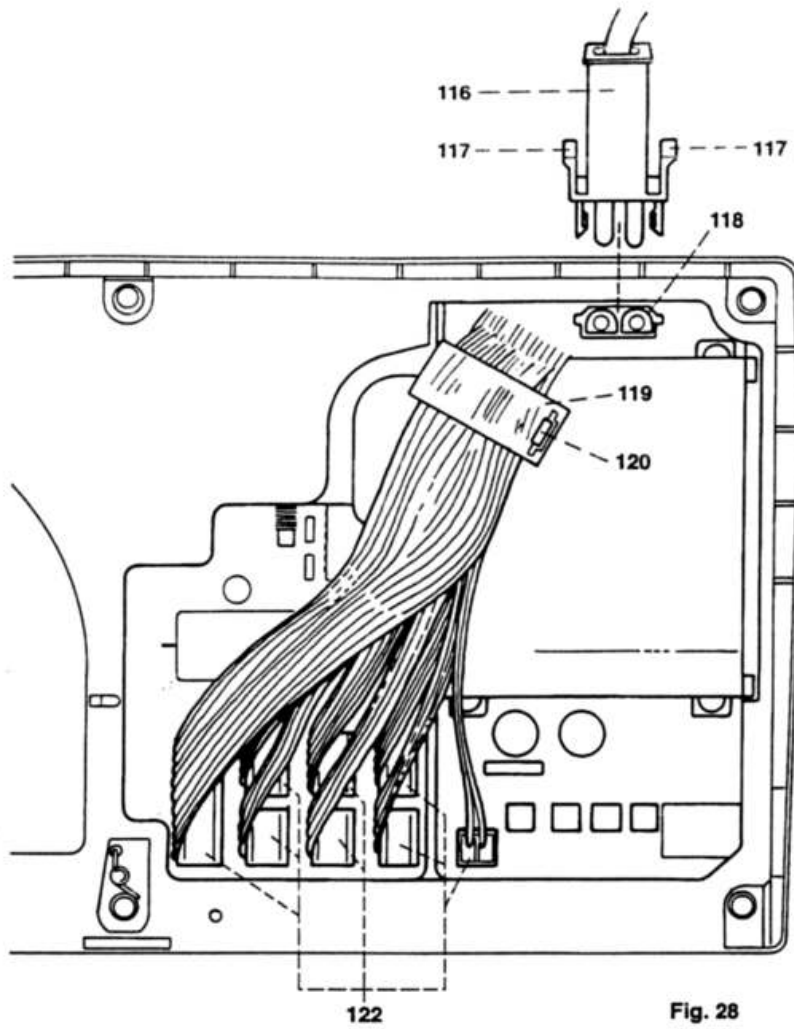

Fig. 28
- Disconnect plugs 122 of the eight flat cables from the circuit board (fig. 28).